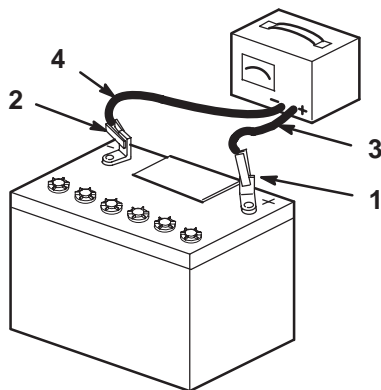

Figure 59
- When the battery is fully charged, unplug the charger from the electrical outlet, then disconnect the charger leads from the battery posts (Fig. 59).